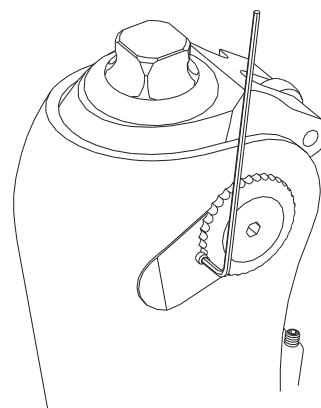

Fig.8
4. Confirm smoothness by bending and extending the knee, then set the locking screw. (See Figure 8.)